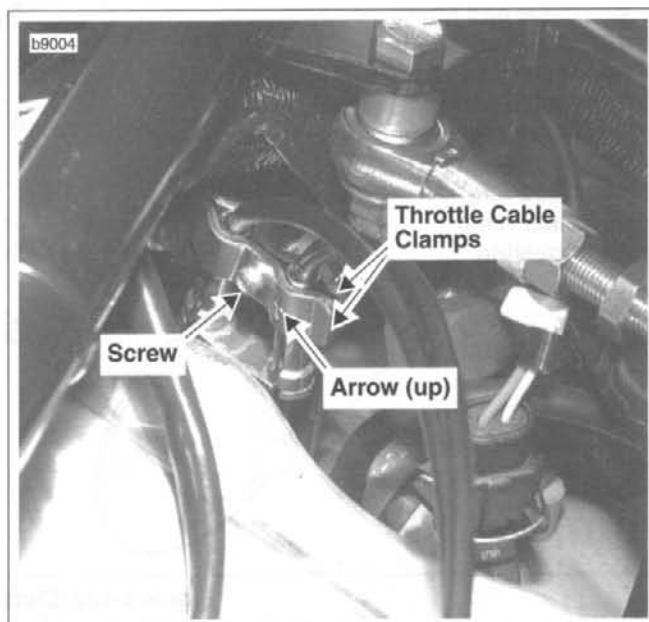

Figure 2-131. Throttle Cable Clamps (2000 Models)
- **2000 Models only:** See Figure 2-131. Attach throttle cable clamp to ferrules with screw (arrow on clamp points up).